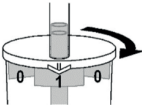

Abb. 3
- To pick up the first polyp, rotate the vessel until the arrow points to the number "1" (Fig. 3).